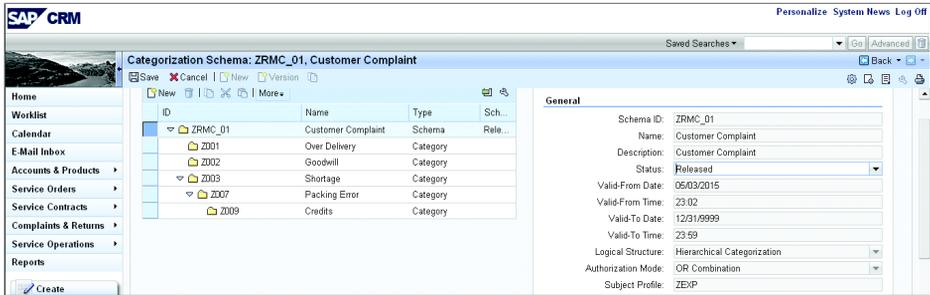

Figure 4.118 Activating the Categorization Schema
8. Activate the CATEGORIZATION SCHEMA by changing the STATUS of the schema from DRAFT to RELEASED, as shown in Figure 4.118.